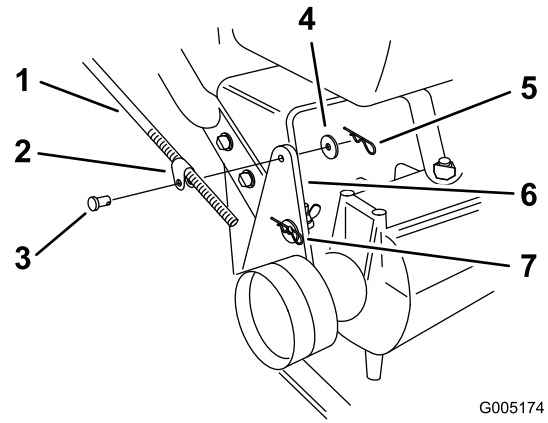

Figure 35
2. Check the operation. If adjustment is required, remove hairpin cotter, washer and clevis pin securing control rod fitting to idler bracket (Figure 35).